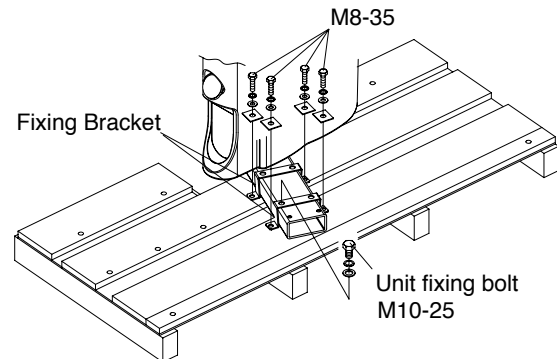

Fig.5-3 Removing Unit from Pallet
- (3) Remove a unit fixing bolt (M10 - 25) and hold the unit. (Fig5-3)
- (4) Remove four bolts (M8-35) and two fixing brackets.(Fig.5-3)
(2) Mounting The Cuspidor Unit
- A. Hold the cuspidor unit while on the pallet and remove 3 x M10 bolts from under the mounting adapter. (**Fig.5-3**)